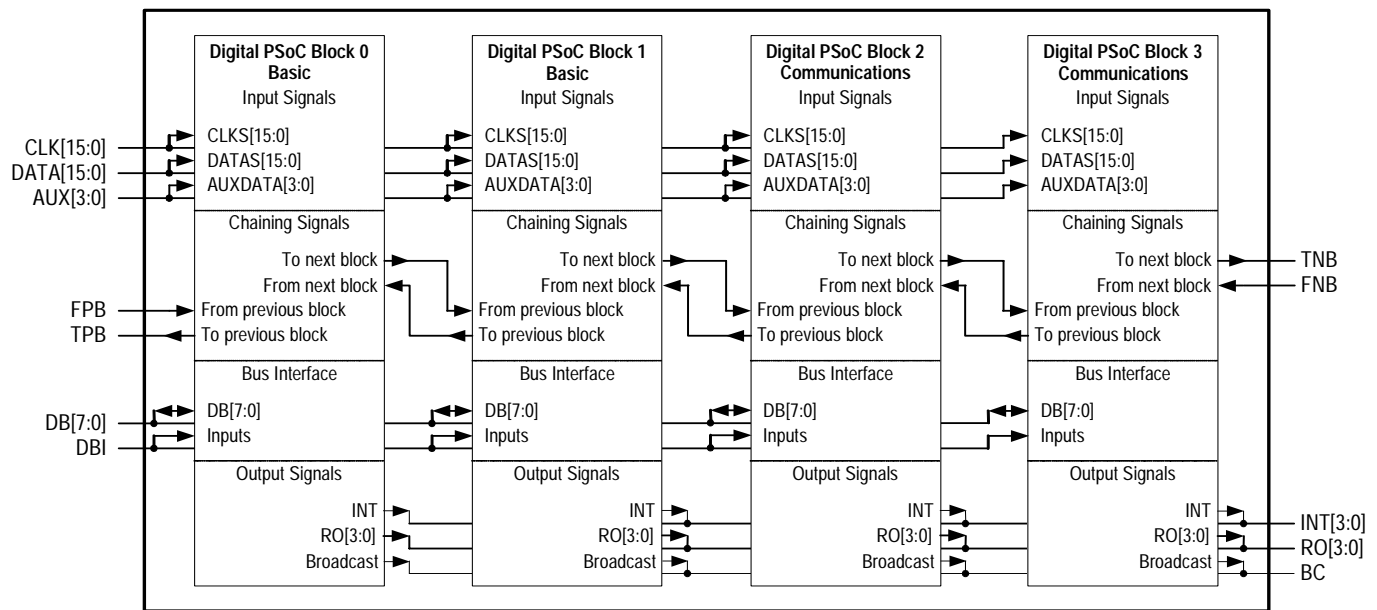
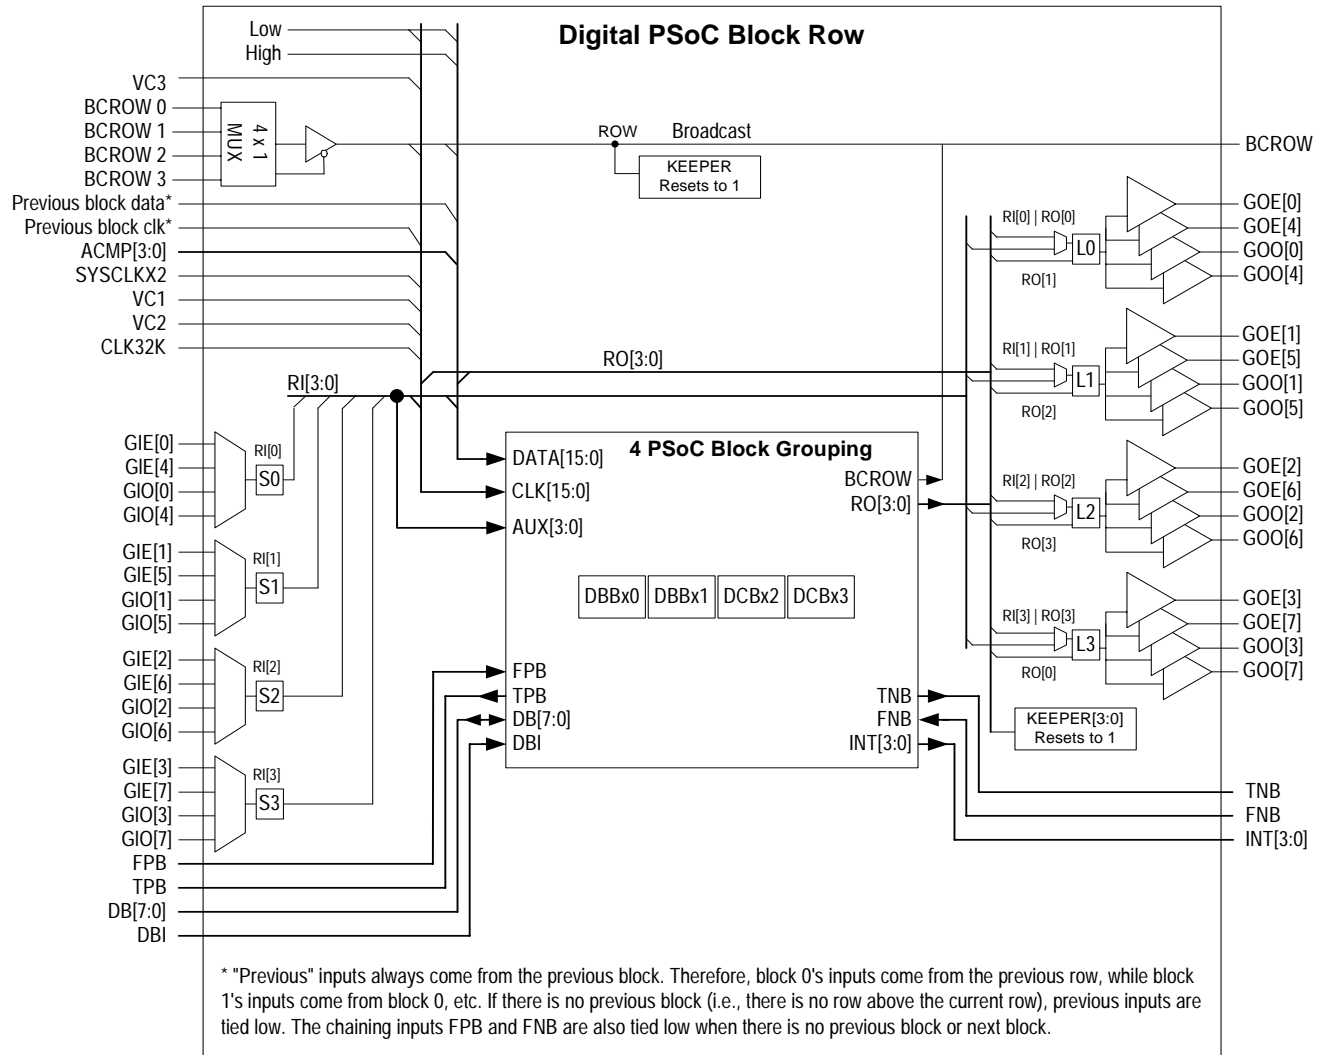

Figure 16-1. Detailed View of Four PSoC Block Groupings
Figure 16-2. Digital PSoc Block Row Structure
In Figure 16-1, within a Digital PSoC Block row, there are four digital PSoC Blocks. The first two blocks are of the type basic (DBB). The second two are of the type communication (DCB). This figure shows the connections between digital blocks within a row. Only the signals that pass through the bold line in Figure 16-1 are shown at the next level of hierarchy (Figure 16-2 on page 195).
In Figure 16-2, the detailed view of the four PSoC block grouping, as seen in Figure 16-1, has been replaced by the box in the center of the figure labeled “4 PSoC Block Group-
ing.” The rest of the configurable nature of the Row Inputs (RI), Row Outputs (RO), and Broadcast clock net (BC) is shown. The next level of hierarchy is shown in Figure 16-1.
The only configurable inputs to a Digital PSoC Block Row are the Global Input Even and Global Input Odd 8-bit buses. The only configurable outputs from the Digital PSoC Block Row are the Global Output Even and Global Output Odd 8-bit buses. Figure 16-2 on page 195 illustrates the relationships between global signals and row signals.
Notice on the left side of Figure 16-2 that global inputs (GIE[n] and GIO[n]) are inputs to 4-to-1 multiplexers. The output of these multiplexers are Row Inputs (RI[x]). Because there are four 4-to-1 multiplexers, each with a unique set of inputs, a row has access to every global input line in a PSoC device.
The outputs from a Digital PSoC Row are a bit more complicated than the inputs. Figure 16-2 on page 195 illustrates the output circuitry in a Digital PSoC Row. Notice in the figure a block labeled “Lx.” This block represents a 2-input lookup table (LUT). The LUT allows the user to specify any one of 16 logic functions that should be applied to the two inputs. The output of the logic function will determine the value that may be driven on to the Global Output Even and Global Output Odd busses. Table 16-5 lists the relationship between a lookup table’s four configuration bits and the resulting logic function. Some users may find it easier to determine the proper configuration bits setting by remembering that the configuration’s bits represent the output column of a two input logic truth table. Table 16-5 lists seven examples of the relationship between the LUT’s output column for a truth table and the LUTx[3:0] configuration bits.